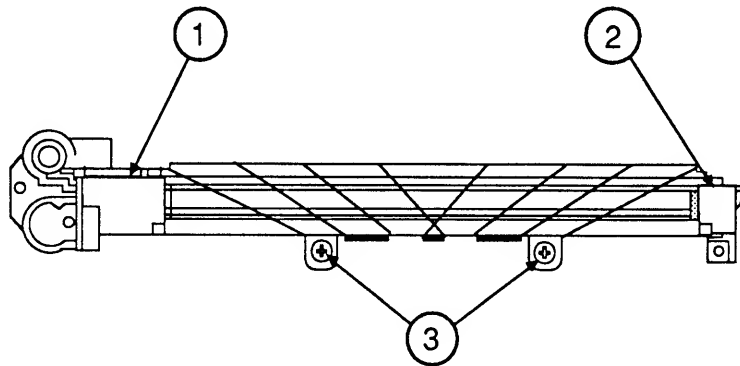

FIGURE 43
3. Remove both the corona wire termination covers (Figure 43, #1 and #2) by unsnapping them and lifting them clear of the assembly.
5. Remove the nylon guide wire by loosening the screws (Figure 43, #3) that hold it to the corona assembly.